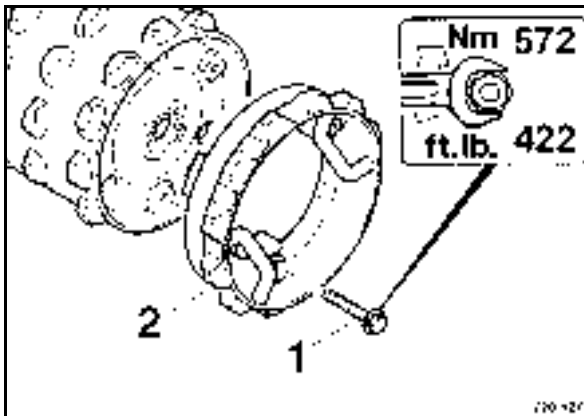

Fig. 87
- Attach drum extensions 2 (Fig. 87) to the drums, turn three fastening screws (1) into each drum and tighten.